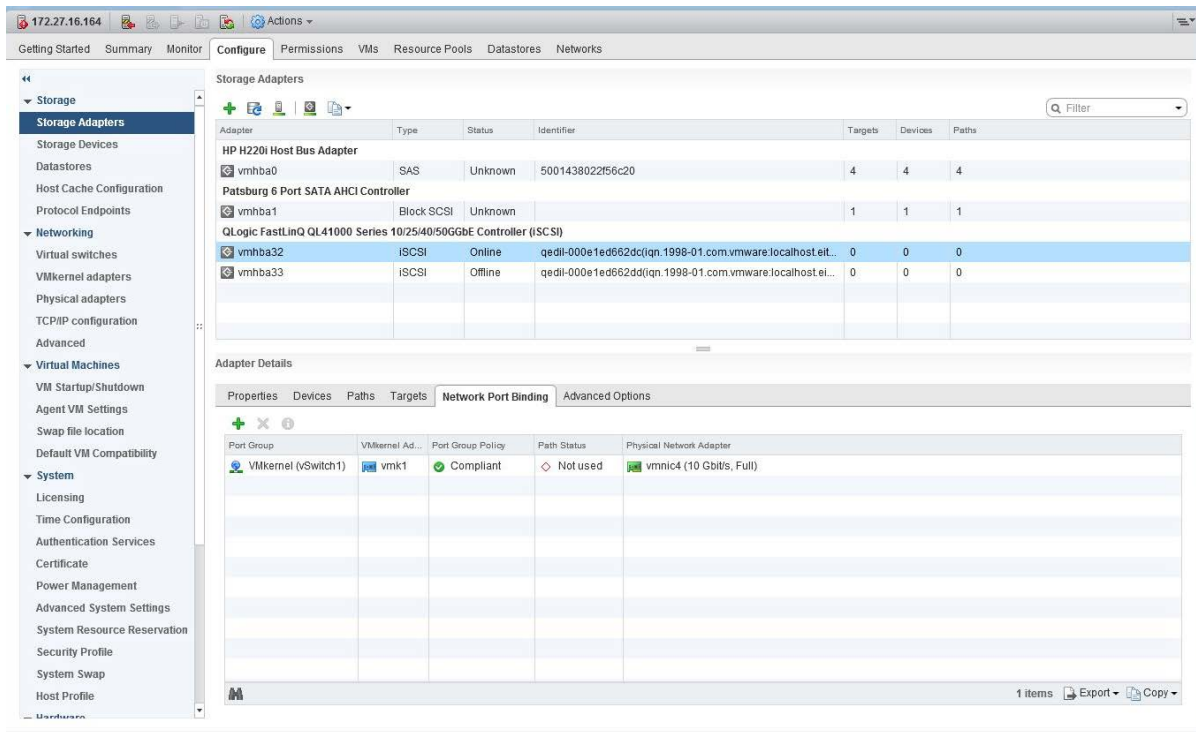

Figure 3-3. Network Port Binding Page
- a. Under **Adapter Details**, click the **Network Port Binding** tab as shown in Figure 3-3.